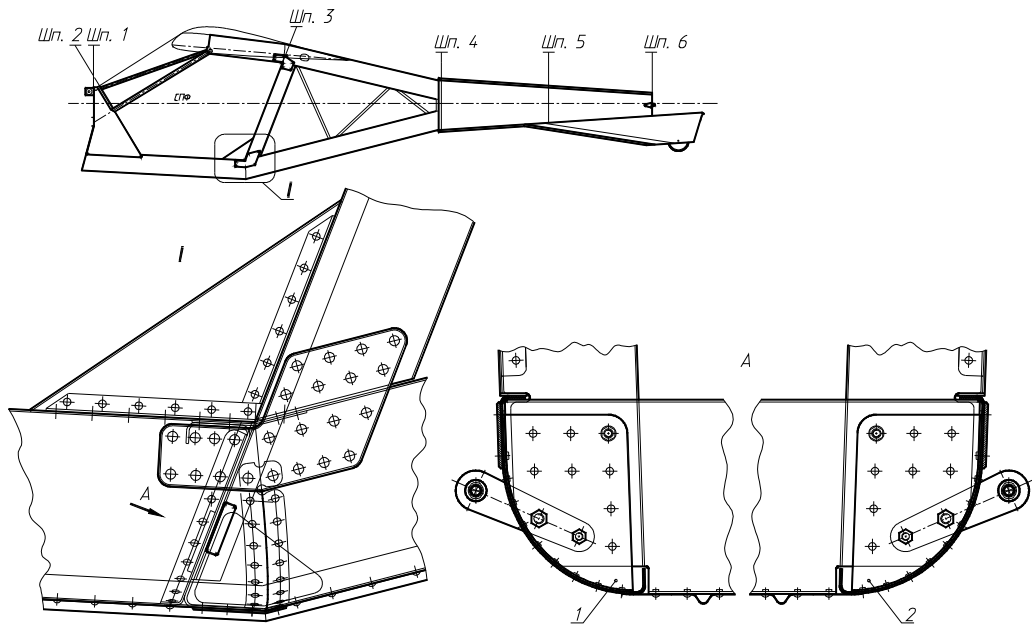

Fig. 1
Inspect right and left diaphragms (item 1, 2 on fig.1) for absence of cracks.